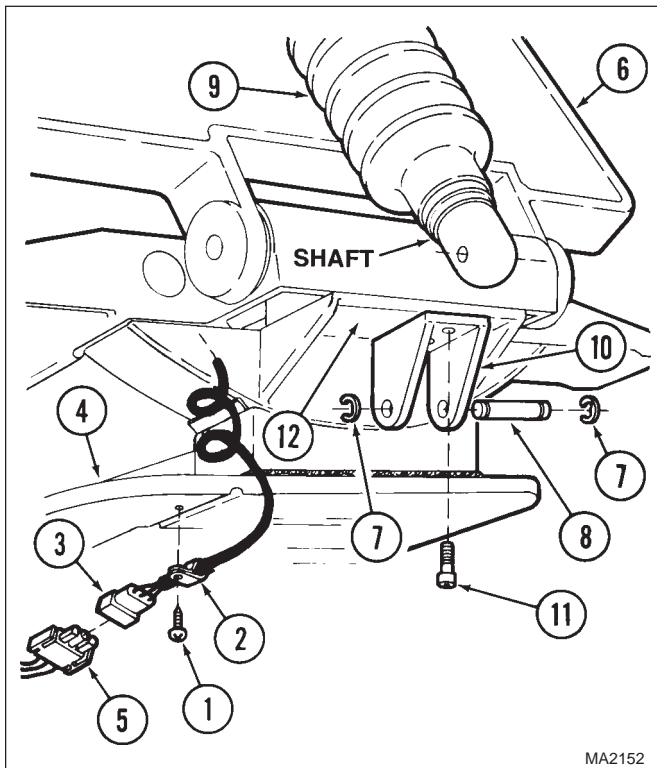

Figure 4-26. Foot Actuator Disconnection
(4) Remove screw (1, Figure 4-26) and separate wire clip (2) and coil cord wire harness (3) from trendelenburg plate (4).
(5) Tag and disconnect coil cord wire harness (3) from table wire harness (5).